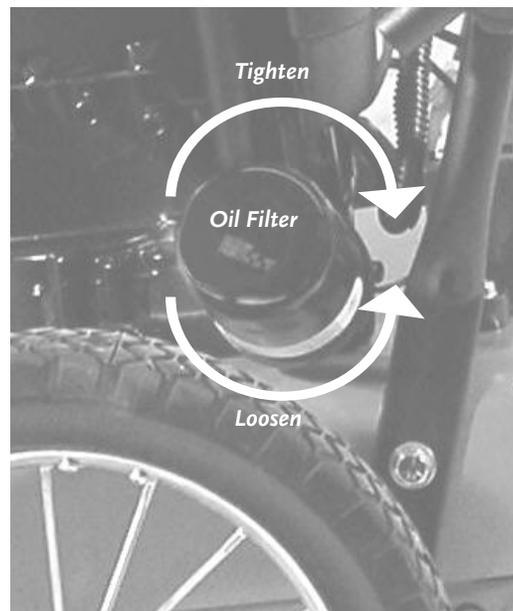

Figure 36
2. Using an Oil Filter Wrench, or grasping the Oil Filter firmly with your hand, unscrew the Oil Filter counterclockwise from the engine (*Figure 36*). **BE SURE THAT THE OLD FILTER GASKET COMES OFF WITH THE OLD FILTER.**